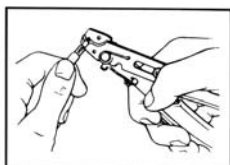

Figure 16
- E.** Remove dielectric at the mark with a simple wire stripping plier (Fig. 16).